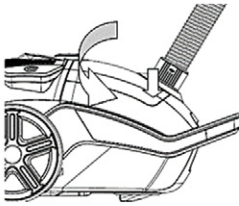

Fig 1
1. **Connect the hose accessories:** Insert the hose end into the hose socket at the front cover and then hook it. (Fig 1)